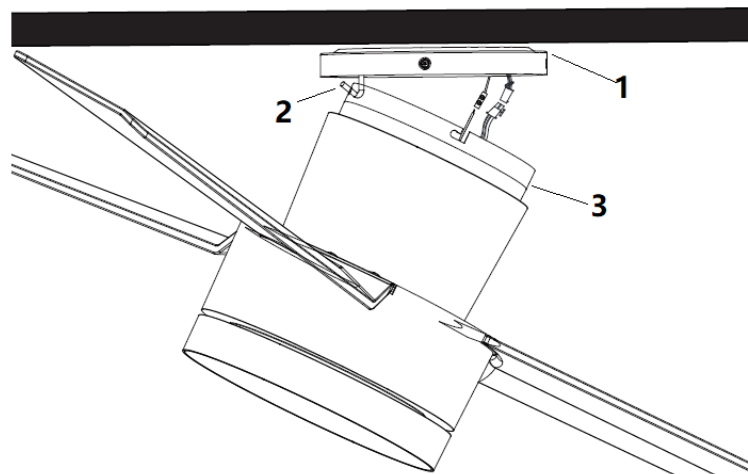

Fig. 5
- Lift the fan assembly to the mounting bracket (1) and let the J-hook (2) of the mounting bracket go through the hole of the hanging canopy (3) and hang up the fan assembly. Fig. 5
- Connect the male and female connector together (4). Fig. 5